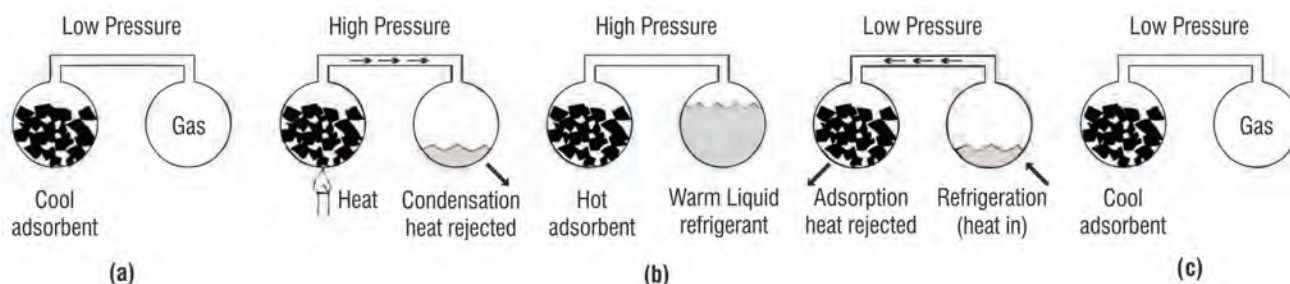

Fig. 1: Process showing intermittent adsorption cycle (solid)...
- **Intermittent adsorption cycles (solid):** Adsorption refrigeration cycles rely on the adsorption of a refrigerant gas into an adsorbent at low pressure and subsequent desorption by heating. The adsorbent acts as a ‘chemical compressor’ driven by heat. In its simplest form, an adsorption refrigerator consists of two linked vessels, one of which contains adsorbent and both of which contain refrigerant as shown in Fig. 1 above.